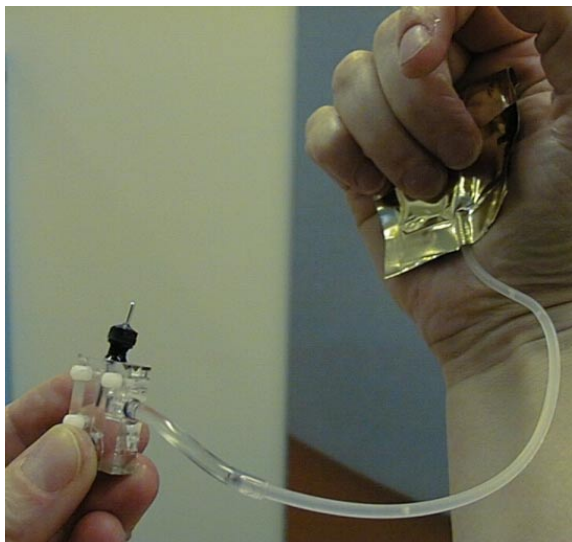

Figure 9-11b: Filling the reference electrode
-  Place one large o-ring on the electrode cap, install it loosely into the chamber; refer to Figure 9-11b.
-  Connect a PVC tube to the side port of the slice so that the metal spring fastens the connection; refer to Figure 9-11b.